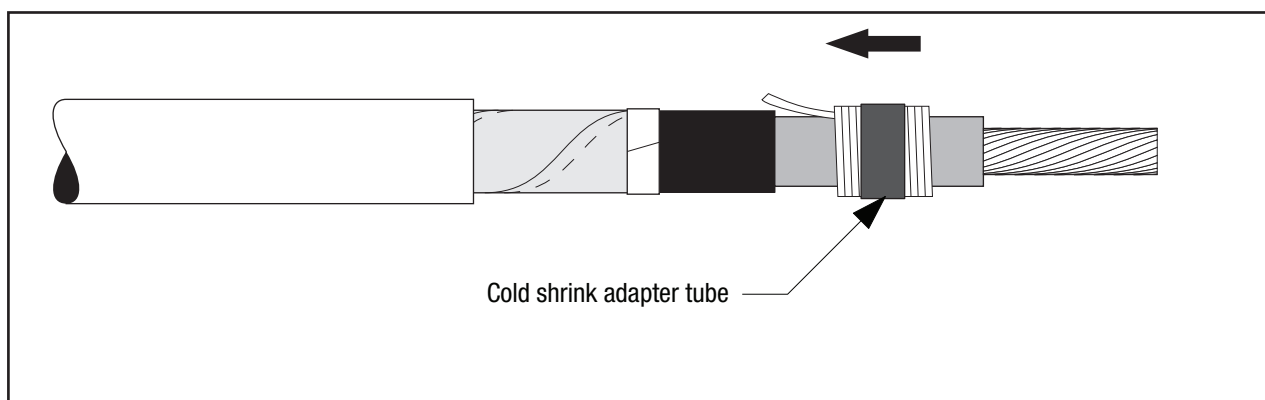

Figure 7
3.4 For 500 kcmil copper connectors or connectors with an O.D. between 1.05 - 1.24" (26,7 - 31,5 mm): Park the cold shrink adapter tube on the insulation. (Figure 7)